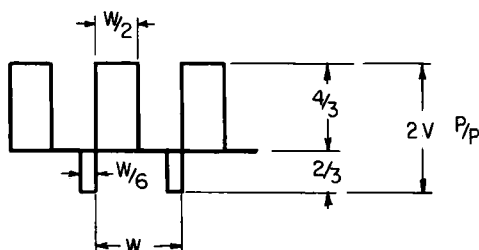

Fig. 27A
- (3) Patch the INPUT jack of the oscilloscope to the VIDEO jack of the 61C signal generator. Terminate the INPUT MULT jacks of the oscilloscope with a 340C plug (75 ohms).
- (4) Adjust video signal for the dimensions shown in Fig. 27A.
- (3) Patch the INPUT jack of the oscilloscope to the VIDEO jack of the 61C signal generator. Terminate the INPUT MULT jack of the oscilloscope with a 340C plug.
- (4) Adjust the video signal for the dimensions shown in Fig. 27A.